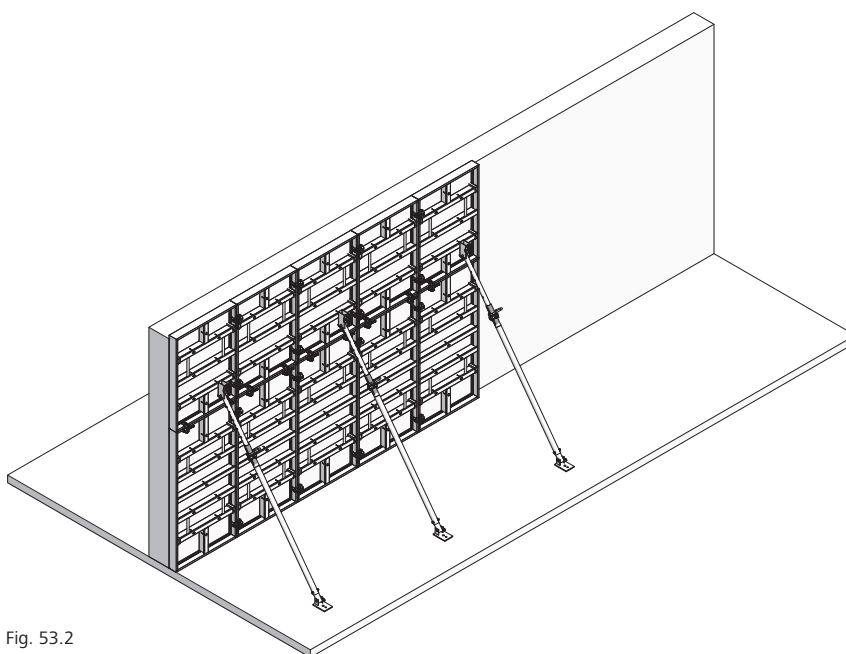

Fig. 53.2
3. Proceed with stripping the remaining panels (Fig. 53.2).